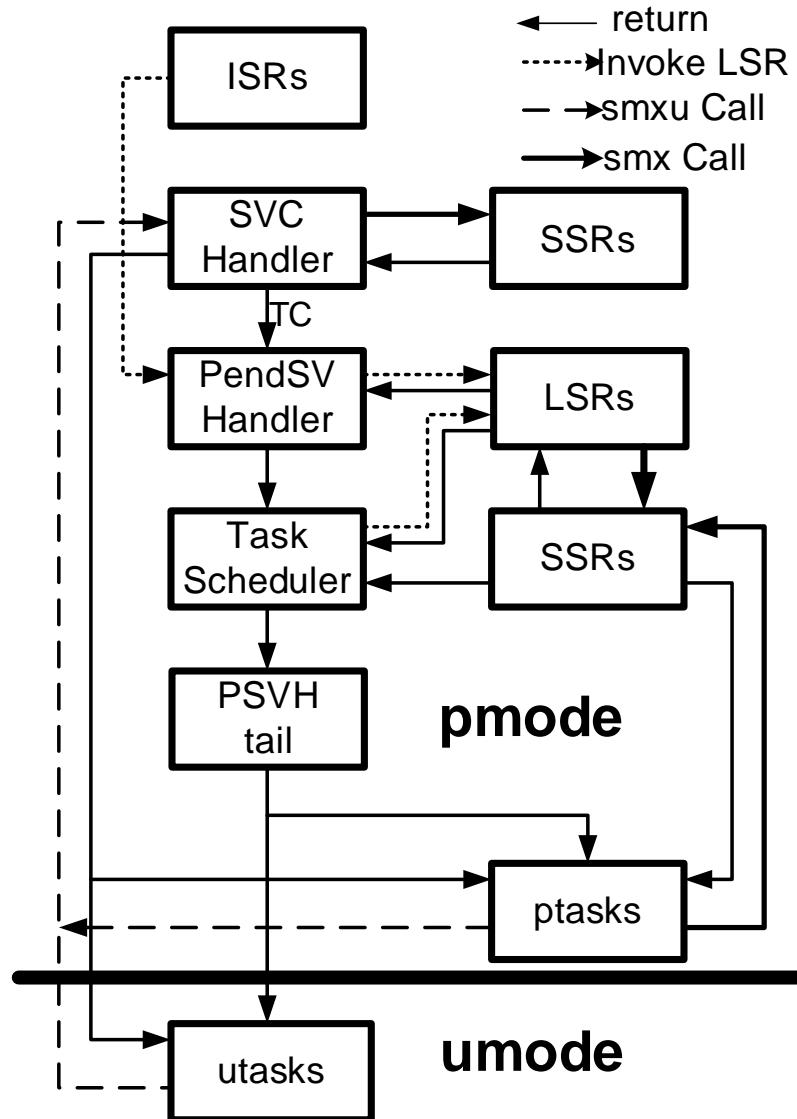

Figure 6.3 System Hierarchy
Figure 6.3 illustrates the relative priorities of objects in a SecureSMX system:
Figure 6.3 illustrates the operation of SecureSMX. This is complicated, but it is helpful to understand the basic concepts:
- LSRs can call System Service Routines (SSRs) but cannot wait on them. For example, an LSR could call *smx_SemSignal()* or it could call *smx_SemTest()* with a 0 wait time. Thus, an SSR returns to the LSR, as shown in Figure 6.3.
- When all LSRs have run and $\text{smx_sched} > 0$, PSVH() branches to the Task Scheduler (TS). If $\text{smx_sched} == 0$, TS is bypassed (not shown). TS determines if a higher priority task is ready to run, and if so the higher priority task becomes the current task, *ct*.
- As shown in Figure 6.3, ptasks can make direct SSR calls. If *smx_sched* is not set by the SSR, the SSR returns directly to the ptask. Otherwise, it branches to TS, as shown.
- Both utasks and ptasks can make indirect SSR calls via the SVC Handler (SVCH()). If *smx_sched* is not set by the SSR and *smx_lqctr* is 0, SVCH() returns directly to the utask or ptask. Otherwise, SVCH() *tail chains* (TC) to PSVH().